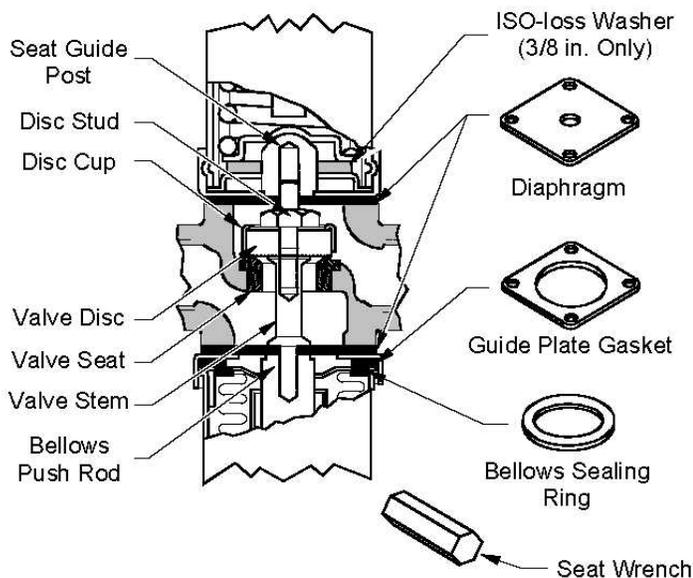

Figure 3: Diagram of 3/8" through 1-1/2" Valve
4. Remove the valve assembly screw (Figure 3).
5. Remove the guide post and old diaphragms (Figure 3).
6. Remove the sensing element and the diaphragms between it and the valve body (Figure 3).
7. Pull the disc, disc retainer, and extension sleeve assembly from the valve (Figure 3).
8. Using the seat wrench supplied with the kit, remove old valve seat and replace with the new valve seat (Figure 3). (Seat wrench not provided for 2 and 2-1/2 in. valves, use 1-15/16 in. hex stock, respectively.)
14. Screw the valve assembly screw through the guide post and into the bellows push rod (Figure 3).